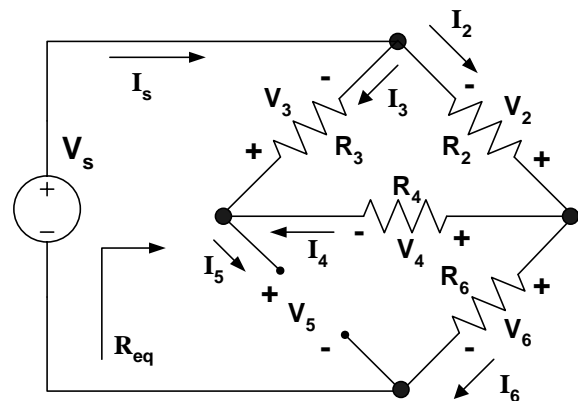

Figure 4: Series-parallel circuit II
4. Repeat steps 2 and 3 for the circuit of Fig. 4 and record the values in Table 2.
6. Build the circuit of Fig. 4 with the hardwired components. Take the voltage current measurements and  $R_{eq}$  and record in Table 2. Considering the Workbench results as the base, compute the percentage errors.
Table 2: Simulation and experimental results for Fig. 4
Refer to Fig. 4 and the results obtained in Table 2 and answer the following questions: